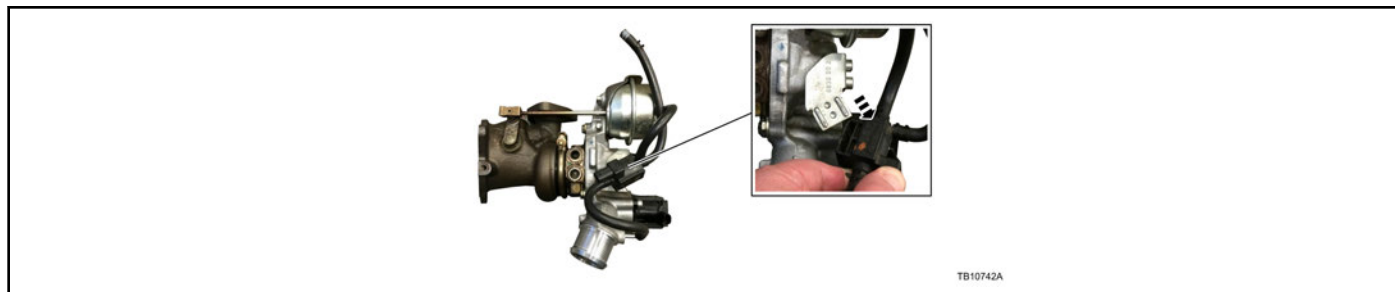

Figure 1 - Article 15-0162
4. Replace the turbocharger wastegate regulating valve solenoid. (Figure 1)